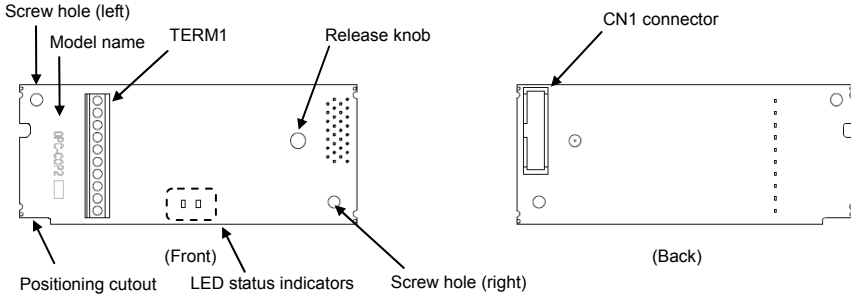
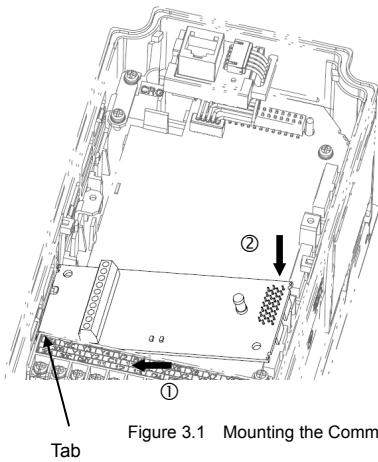
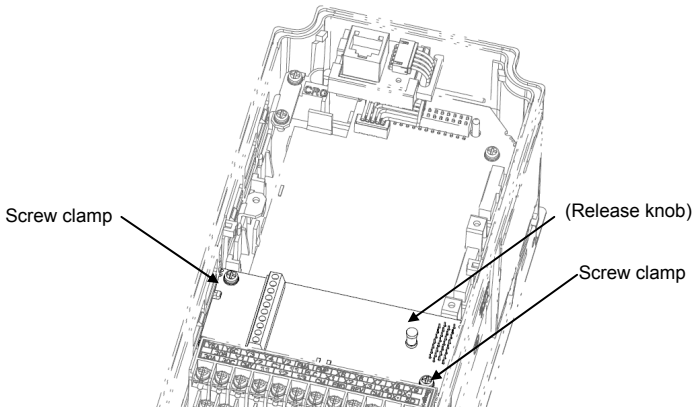

Figure 2.1 Names of Parts on CANopen Communications Card
Figure 3.1 Mounting the Communications Card (to **FRENIC-MEGA A**-port)
Figure 3.2 Mounting Completed (on **FRENIC-MEGA A**-port)
- (1) A communications card, two screws (M3 × 8), and the CANopen Communications Card Instruction Manual (this manual) are contained in the package.
- (2) The communications card is not damaged during transportation—no defective parts, dents or warps.
- (3) The model name "**OPC-COP2**" is printed on the communications card (see Figure 2.1).
Figure 2.1 shows the names of the parts on the CANopen communications card.
- (2) Insert connector CN1 on the back of the communications card (Figure 2.1) into the option connection ports. Then secure the communications card with the two screws that come with the card. (Figure 3.2)
**Note** Check that the positioning cutout (shown in Figure 2.1) is fitted on the tab (① in Figure 3.1) and connector CN1 is fully inserted (② in Figure 3.1). Figure 3.2 shows the communications card correctly mounted.
- (3) Perform wiring to the communications card.